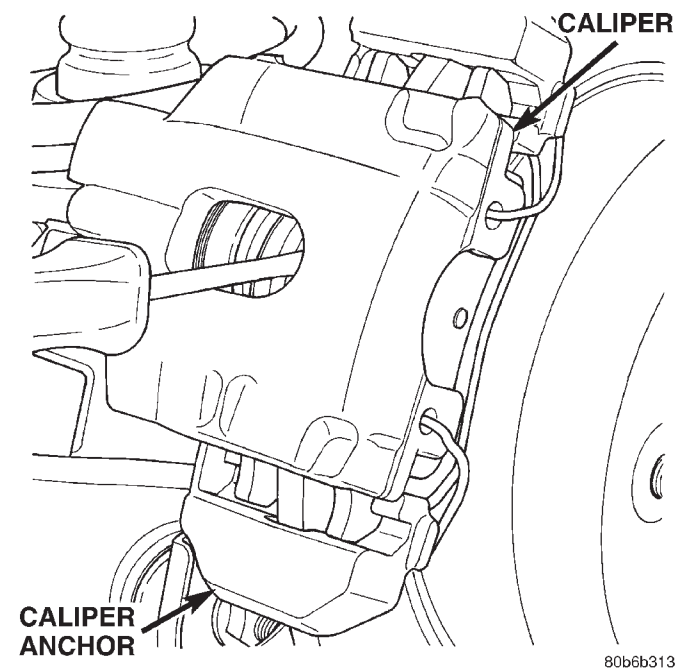

Fig. 37 Bottoming Caliper Piston
- (1) Raise and support vehicle.
- (2) Remove rear wheel and tire assembly.
- (3) Drain small amount of fluid from master cylinder brake reservoir with a **clean** suction gun.
- (4) Bottom caliper pistons into the caliper by prying the caliper over (Fig. 37).